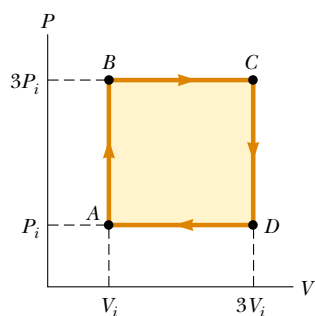

Figure P20.61
61. An ideal gas initially at P_i , V_i , and T_i is taken through a cycle as shown in Figure P20.61. (a) Find the net work done by the gas per cycle. (b) What is the net energy added by heat to the system per cycle? (c) Obtain a nu-